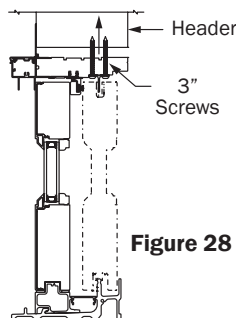

Figure 28
32. Slide the operable panels left and right to reveal the T-rail and the eight (8) innermost holes. Apply the #8 x 3" pan head screws (match the screw color to the T-rail color) into these holes, securing the door frame into the rough opening wood header (Fig. 28 & 29). **Note:** Be sure to use shims between the door frame and header to prevent bowing the head jamb when the longer screws are applied.